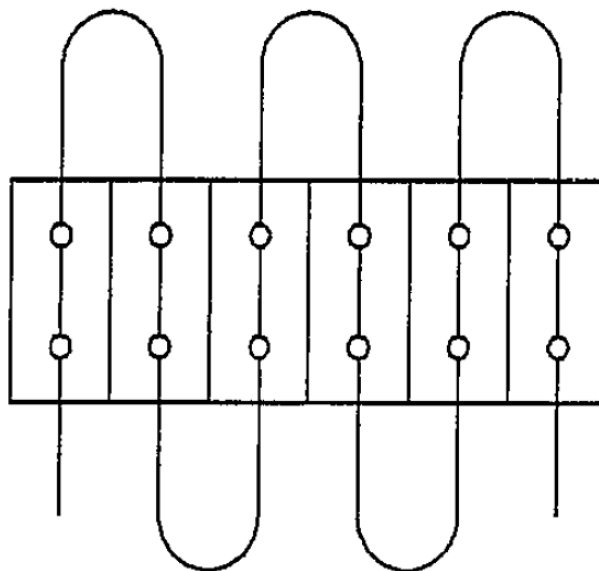

Fig 2 Connection in series for Temperature Rise
For a fuse type terminal block (Any bus, strap or fuse clip when tested with a dummy fuse): The temperature rise should be 30°C Max.	6 adjacent terminal blocks are connected in series (see figure 2). Wire lengths shall be 0.46m for 16 AWG (1.3 mm ²) and smaller, and 1.22m per terminal for 14AWG (2.1 mm ²) and larger. The current shall be passed through the termination continuously for a period of 30 days. Temperatures are to be measured and recorded approximately every 24 hours. Carrying rated current and the max. size wire see table 3 (Per UL1059 Clause 31)
For a fuse type terminal block (Any bus, strap or fuse clip when tested with a fuse): The temperature rise should be 85°C Max. The temperature rise of product should be 30°C Max.	6 adjacent terminal blocks are connected in series (see figure 2). Wire lengths shall be 0.46m for 16 AWG (1.3 mm ²) and smaller, and 1.22m per terminal for 14AWG (2.1 mm ²) and larger. The current shall be passed through the termination continuously for a period of 30 days. Temperatures are to be measured and recorded approximately every 24 hours. Carrying rated current and the max. size wire see table 3 (Per UL1059 Clause 31)
3. Shall meet visual requirements, show no physical damage, and meet requirements of additional tests as specified in the Product Qualification and Requalification Test Sequence shown in Figure 2.